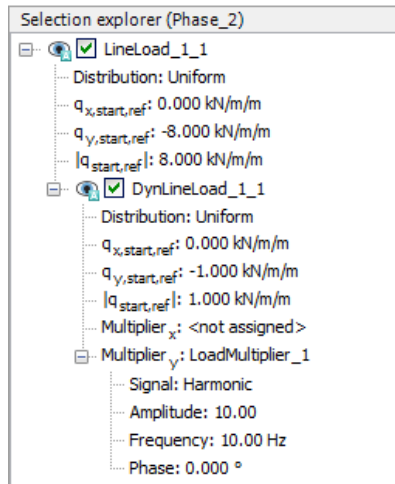

Figure 12.6 Specification of the dynamic load component in the *Selection explorer*
- Specify the components of the load as $(q_{x,start,ref}, q_{y,start,ref}) = (0.0, -1.0)$. Click *Multiplier_y* in the dynamic load subtree and select the *LoadMultiplier_1* option from the drop-down menu (Figure 12.6).